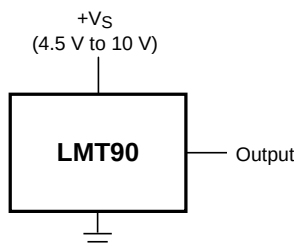

Figure 14. Full-Range Centigrade Temperature Sensor (–40°C to 125°C)
Unless otherwise noted, these specifications apply for $V_S = 5\text{ V}_{DC}$ and $I_{LOAD} = 0.5\text{ }\mu\text{A}$, in the circuit of Figure 14. All limits $T_A = T_J = 25^\circ\text{C}$, unless otherwise noted.
- (1) Limits are specific to TI's AOQL (Average Outgoing Quality Level).
- (2) Accuracy is defined as the error between the output voltage and 10 mV/°C times the device's case temperature plus 500 mV, at specified conditions of voltage, current, and temperature (expressed in °C).
- (3) Non-linearity is defined as the deviation of the output-voltage-versus-temperature curve from the best-fit straight line, over the device's rated temperature range.
- (4) Regulation is measured at constant junction temperature, using pulse testing with a low duty cycle. Changes in output due to heating effects can be computed by multiplying the internal dissipation by the thermal resistance.
- (5) Quiescent current is defined in the circuit of Figure 14.
- (6) For best long-term stability, any precision circuit will give best results if the unit is aged at a warm temperature, and/or temperature cycled for at least 46 hours before long-term life test begins. This is especially true when a small (Surface-Mount) part is wave-soldered; allow time for stress relaxation to occur. The majority of the drift will occur in the first 1000 hours at elevated temperatures. The drift after 1000 hours will not continue at the first 1000 hour rate.